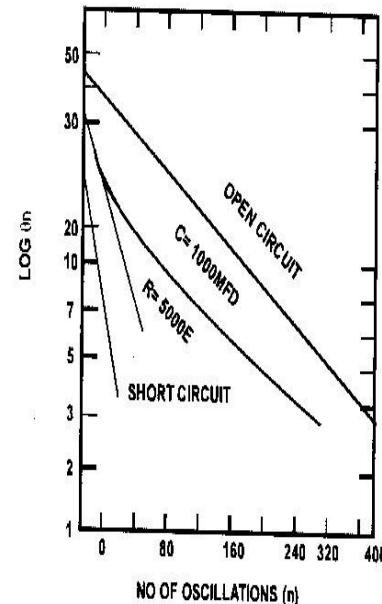

Fig.7. Graph showing the variation of Induced charge with no. of Oscillations
2. Plot $q=CV$ against number of swings (n). Observe the plot to be a straight line as shown in Fig 7.